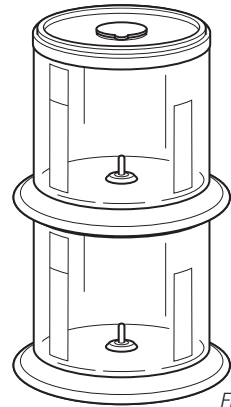

Fig. 7
- The bowls can be stacked for storing in the refrigerator or cabinet. **(Fig. 7)**